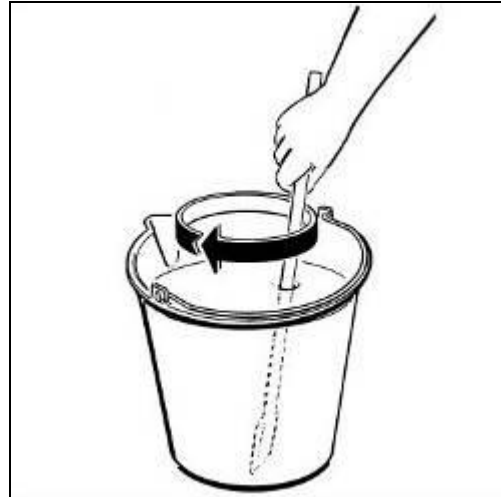

Fig. 22
- Dilute and mix the product in a separate container according to the manufacturer's instructions (see fig.22).